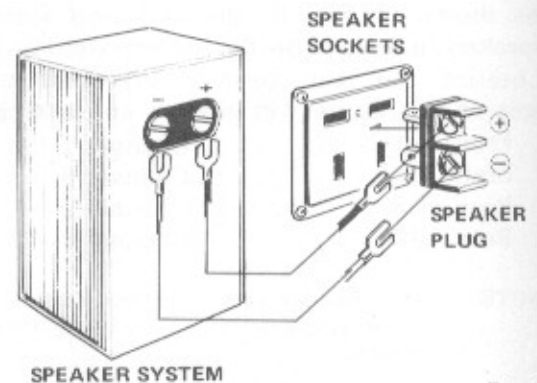

Fig. 4
1. Connect the leads from the speaker system to the speaker plug as shown in Fig. 4. Make sure to connect the positive (+) lead to the positive terminal of the plug, and the negative (-) lead to the negative terminal. Then, confirm that all connections are correct.